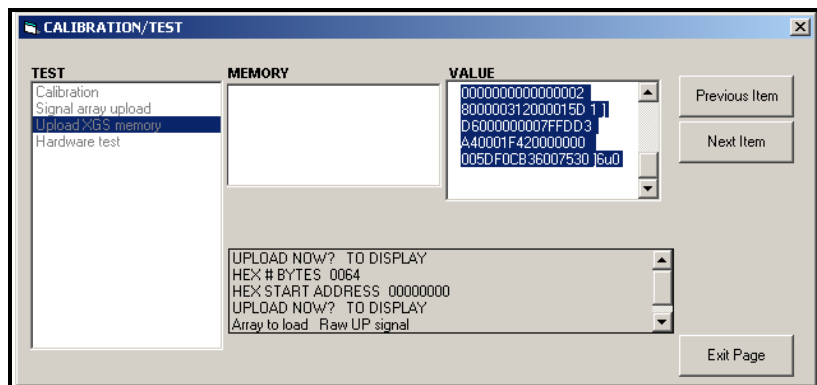

Figure B-6: XGS868i Memory Data Displayed on PanaView
- If you double-click on *To Display*, the right pane of the window appears similar to Figure B-6 below, and the data is available for immediate evaluation. Click [Exit Page] to close the window and return to the *Calibration/Test* menu.